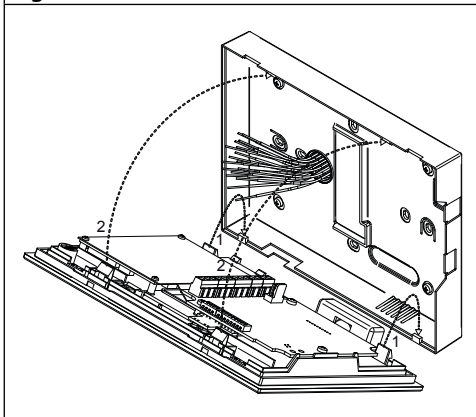

Fig. 7
3. Connect the wires using a flat screw driver then setup the dip-switches as per provided connection diagram or instruction sheet and fix the front part of the videophone to the back cover as shown in Fig. 7: hook first the bottom side then rotate the front part and hook the upper side;